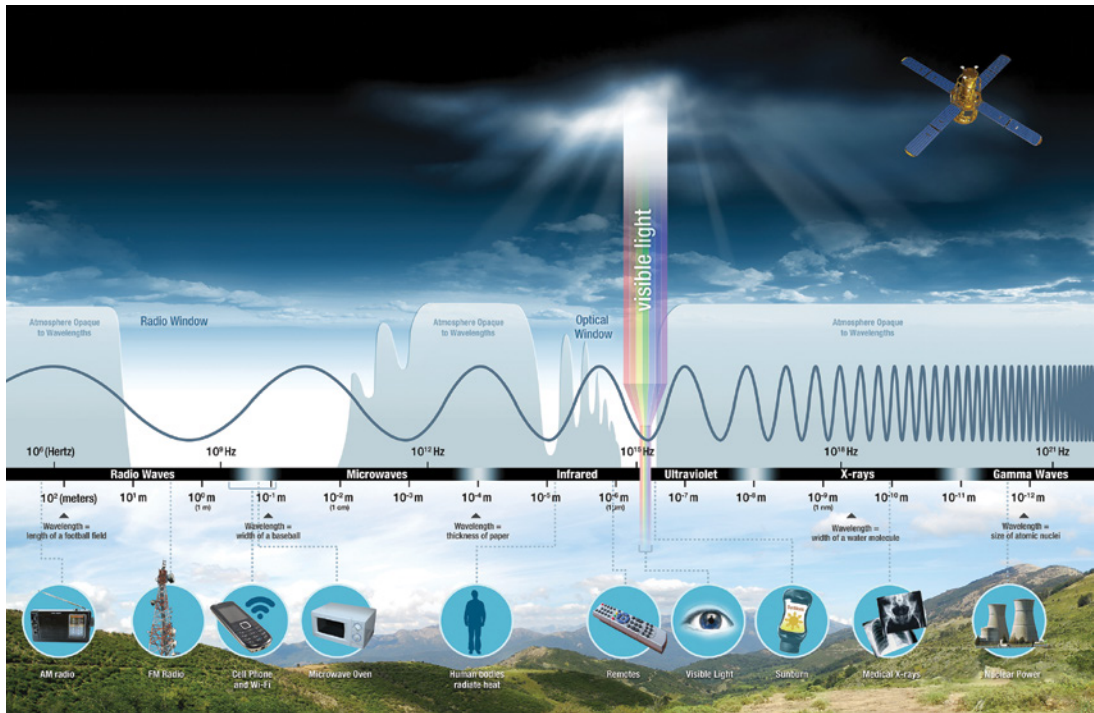

Figure 15-1: Representation of the EM spectrum
Before you can understand how RF communications operate, it is useful to have a passing understanding of the scientific principles that underpin them. The electromagnetic spectrum may be one of the most important things in your life that you never stop to think about. The spectrum defines all the radiated energy in the universe, ranging from ultra-high-frequency gamma rays to low-frequency radio waves. In the middle of the spectrum, you'll find visible light, the type of electromagnetic radiation you are probably most familiar with. Light from the sun, your lamp, and the LEDs in your Arduino project all reach your eyes in the form of electromagnetic radiation. Similarly to how your eyes interpret this electromagnetic energy as light, an Arduino with an RF receiver can “receive” information in the form of radio waves. Figure 15-1 shows an infographic from NASA that includes all forms of electromagnetic (EM) radiation.